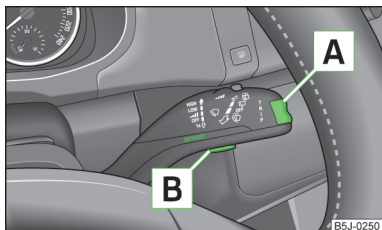

Fig. 23
Switch memories using button **B** » Fig. 23 on page 34 on the windscreen wiper stalk.
The Toggle button for selecting menu items **A** » Fig. 23 and button **B** are found on the wiper stalk.
› Briefly press the top or bottom of rocker switch **A** » Fig. 23. This opens the individual menu items in the multifunction display one after the other.
› Press button **B** » Fig. 23.
› Press and hold button **B** » Fig. 23.
- Press button  » Fig. 23 on page 34 to select the **Warning at** (MAXI DOT display) or  (segment display) menu item.